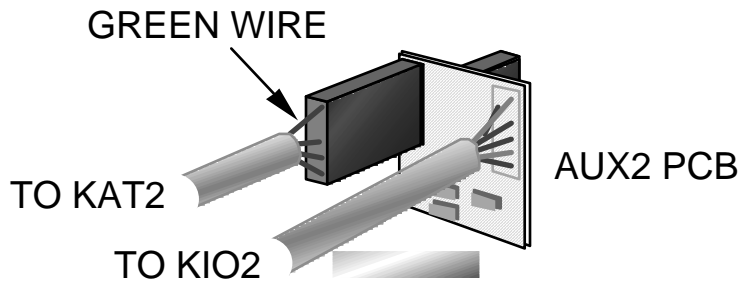

Figure 10
- If you have the antenna tuner installed, plug its control cable into P1 on the AUX2 board as shown in Figure 10. Orient the ATU connector as shown, with the green wire at the top. **Make sure the antenna tuner's connector is mated with all 10 pins of P1 on the AUX2 board.**